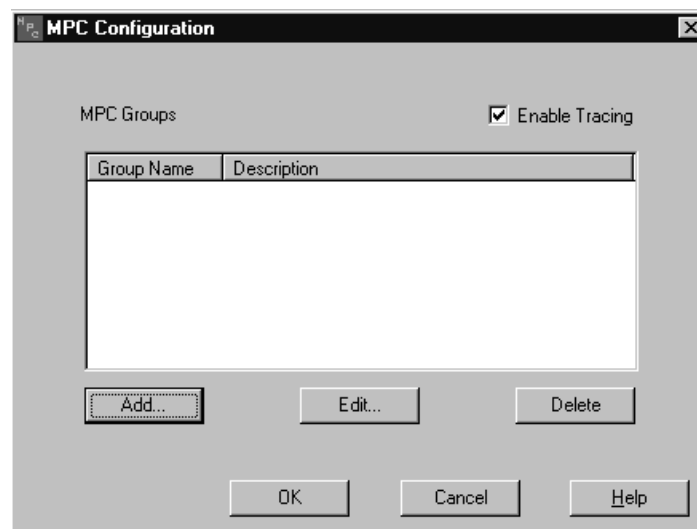

Figure 5-7. MPC Configuration
During link definition for TCP/IP Direct Connect (see page 71) or CS/NT (see page 90) you will be given the option to configure MPC. When you select the option to configure MPC the MPC Configuration dialog box is displayed (Figure 5-7). The following step-by-step procedure will define a new MPC transmission group.
1. From the MPC Configuration screen (Figure 5-7), click the **Add...** button.